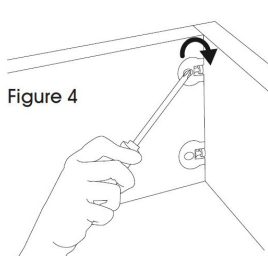

Figure 4
- 4 Connect the camlocks and pins by inserting the screwdriver into the top hole of the camlock and turning clockwise. (See Figure 4)